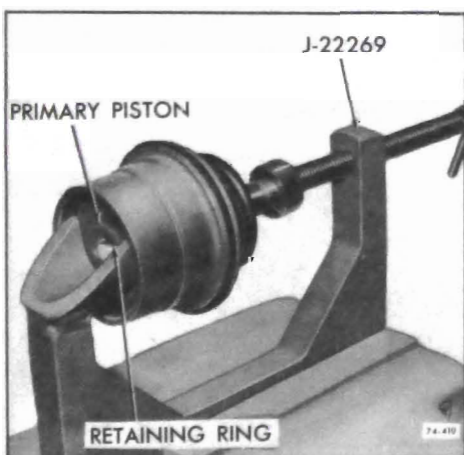

Figure 74-172
2. Compress primary piston using J-22269 and remove retaining snap ring. Release J-22269. See Figure 74-172.